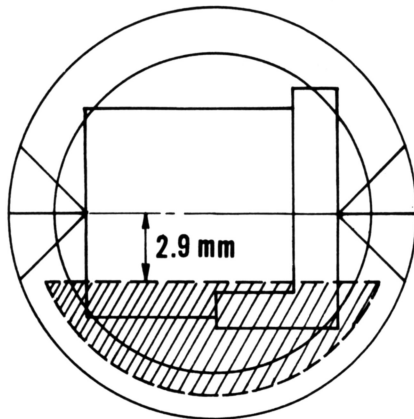

Fig. 3-10
2. Attach the adhesive black mask (PU47605-1-2) to the new vidicon as shown in Fig. 3-10.
The black mask is essential for obtaining stable black level. Very carefully set it at the position shown in Fig. 3-10.